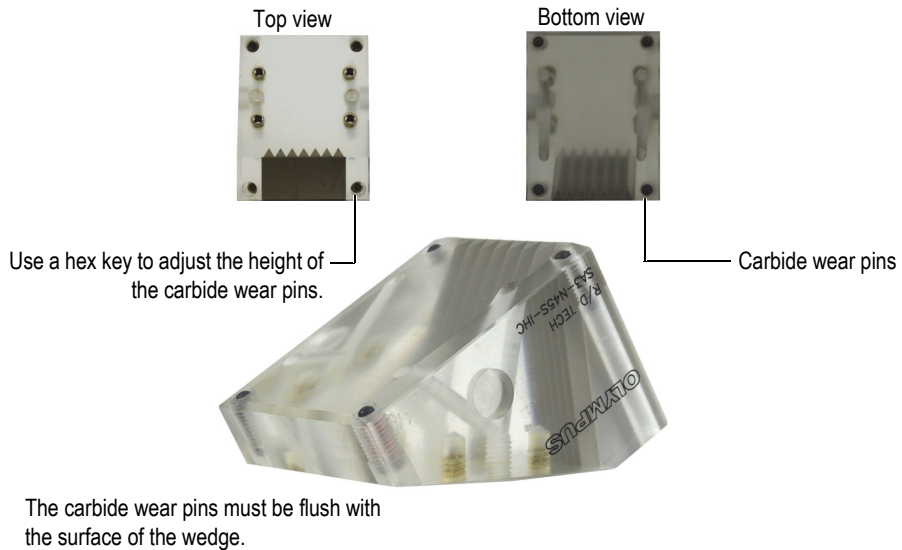

Figure 2-30 Adjusting the wedge's carbide wear pins
Wedges are designed to hold a transducer or a phased array probe in order to ensure adequate ultrasonic diffusion through the surface to be inspected, and to direct the couplant flow correctly. To limit wearing of the wedge, carbide wear pins can be inserted at each corner of the contact surface of the wedge (Figure 2-30 on page 59).
- ◆ Use a hex key to adjust the height of the carbide wear pins on each installed wedge. Ensure that the top of each pin is flush to the surface of the wedge (Figure 2-30 on page 59).
All carbide wear pins should be flush with the wedge surface (Figure 2-30 on page 59).